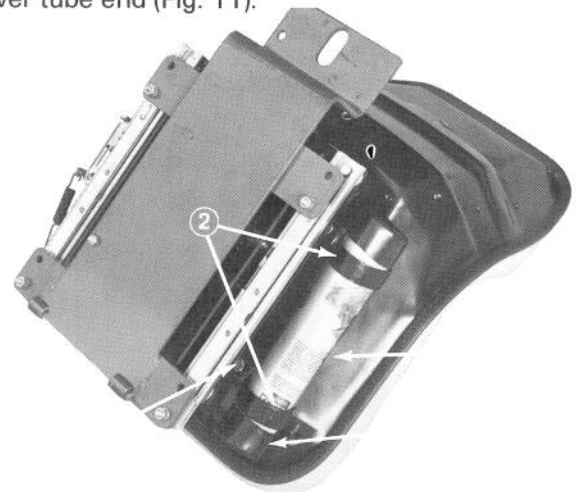

Figure 11
6. Assemble seat suspension assembly to four capscrews on seat bottom with (4) lockwashers, flatwashers and nuts (Fig. 11).
7. Secure (2) R-clamps to right side of seat bottom with (2) capscrews supplied in kit. Install manual tube into R-clamps, insert manual into tube and place cap over tube end (Fig. 11).
8. Mount seat support over four threaded studs at the bottom of seat suspension assembly and secure in place with lockwashers and nuts (Fig. 11).